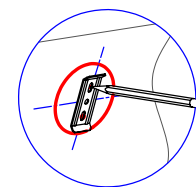
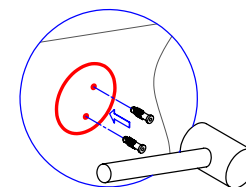

Fig. 2
Fig. 3
- Step 2. Unscrew Slotted Set Screw at base and remove mounting plate. (Fig.2)
- Step 3. Locate mounting plate in the center of circle. Mark location of the mounting screw (Fig.2) and drill holes at the marked location. (Fig.3)
- Step 4. Insert anchors into the holes until flush with wall. (Fig.3)